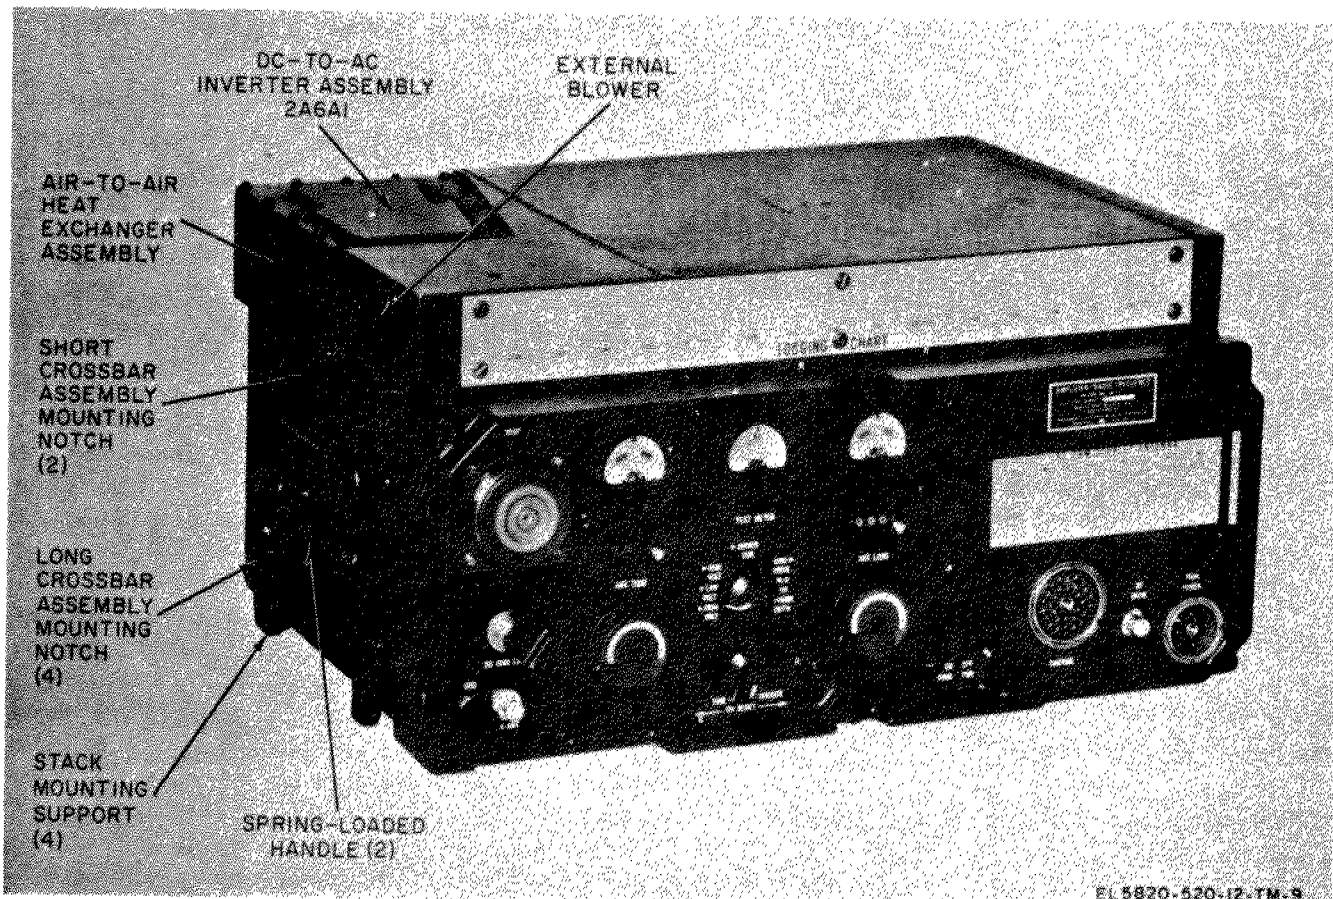

Figure 1-8. Amplifier, Radio Frequency AM-3349/GRC-106, front oblique view.
a. The AM-3349/GRC-106 (fig. 1-8) is a self-contained, linear radiofrequency (rf) power amplifier consisting of nine assemblies. Three of the assemblies are the front panel, chassis, and case. Six of the assemblies are mounted on the chassis to which the front panel is secured. The front panel is secured to the case by six captive Allen screws. The case contains a dc-to-ac inverter for supplying the required alternating current (ac) operating voltages for tube filaments and the two blower motors. The front panel assembly includes a dc-to-dc converter for supplying the required dc operating voltages for the tube screens and plates in the transmit mode. Both the inverter and converter use the vehicle power supply for a primary power source. All controls and meters, and power, antenna, input, and output connectors are located on the front panel.